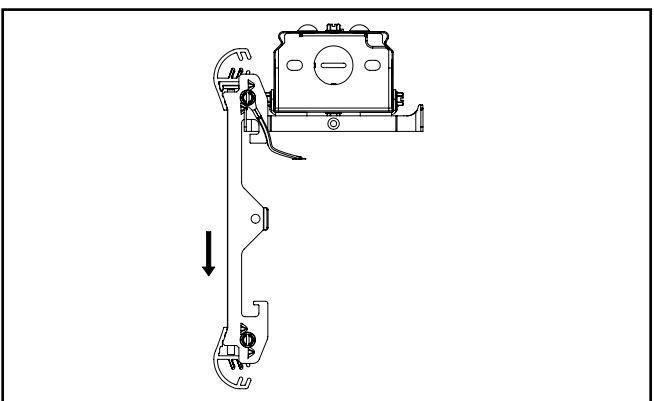

Figure 5.2.
- B. Place waveguide assembly inside the groove in driver hinge bracket (Figure 5.2).